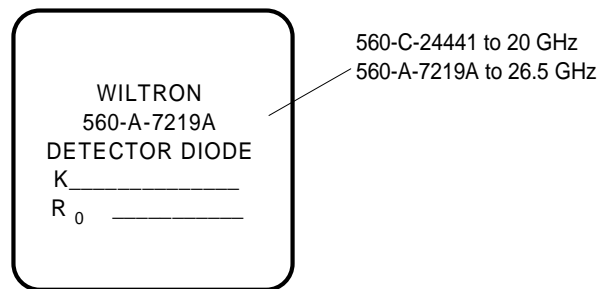

Figure A-6. Replacement Diode Module Container Label
- Step 7** Obtain the “K” value from the replacement diode container label (Figure A-6).